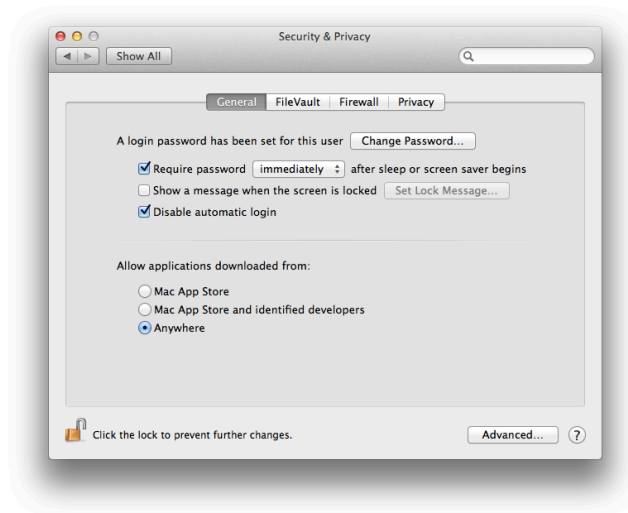

Figure 1: Mountain Lion Security Settings
1. (Only required on OSX10.8 Mountain Lion) Apple's new security policy per default allows you to install software just from the App Store. To be able to install 2dx you have to allow the installation from other sources as just the App Store. This can be done under "System Preferences > Security & Privacy > General > Advanced..." as shown in Figure 1.